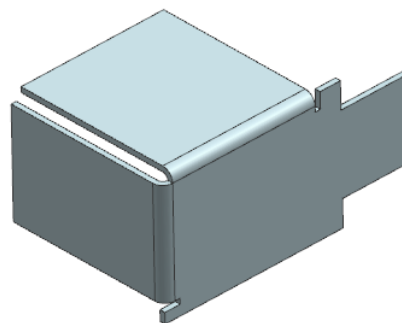

Figure 14-132 Preview of the left flange
7. Select the **Bend/Face** option from the **Corner Relief** drop-down list in the **Relief** sub-rollout and choose the **OK** button to exit the dialog box; the second flange is created, as shown in Figure 14-132.